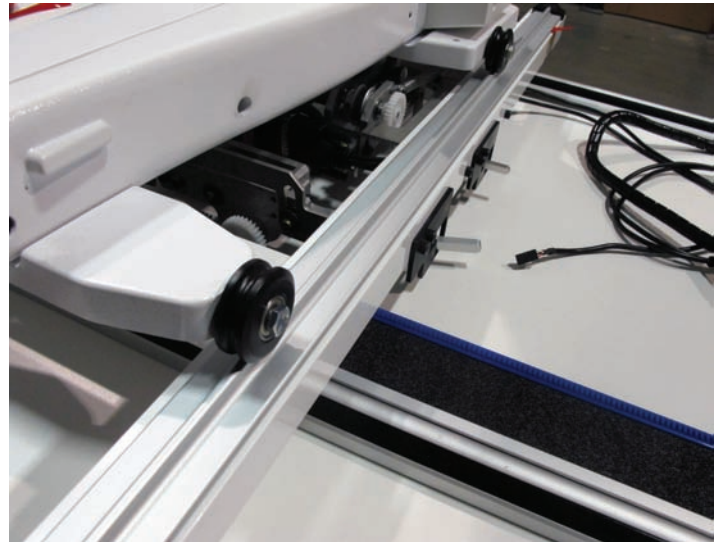
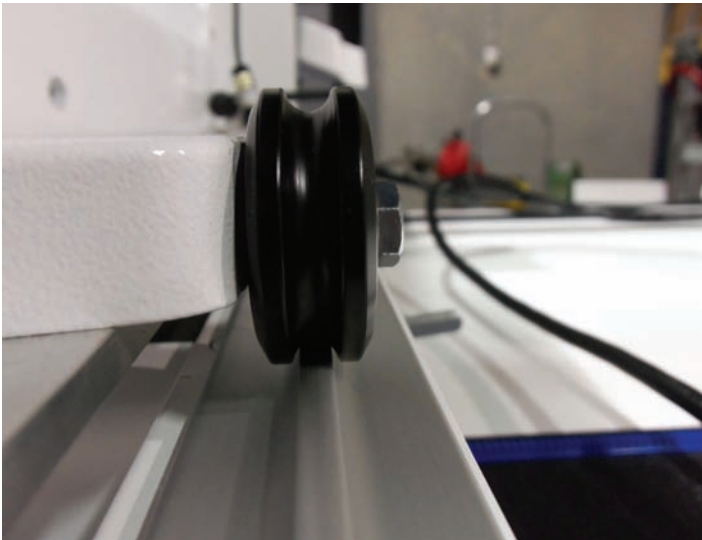
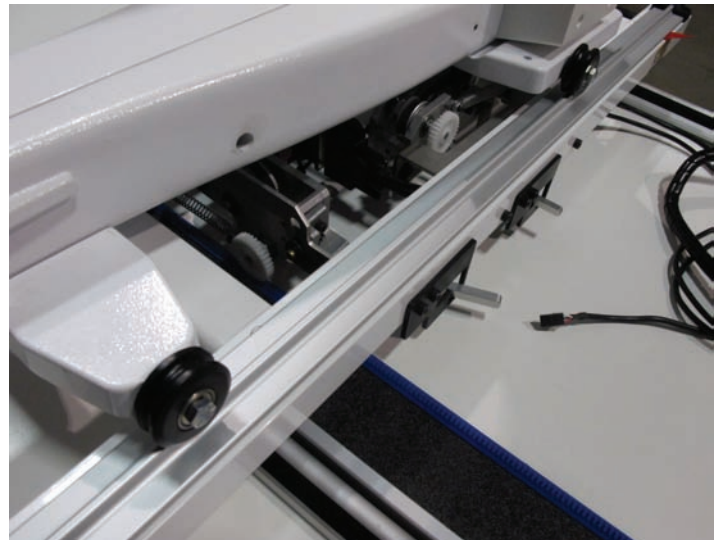

Figure 20
Figure 21, Front Wheels
Figure 22
Step 12: If necessary, slightly adjust the right-side track to properly position the track under the wheel groove (**Figure 20**). (Loosen the end cap screws, carefully lift the end of the track in case it has begun to stick to the carriage rail, and then adjust the track; lightly tighten the end cap screws after the adjustment is completed.) It is helpful to look down the length of the track at the wheels on both sides of the machine and confirm that the radius in the wheels aligns with the radius on the top of the new track (**Figure 21**). Roll the machine from the front to the rear of the carriage to check the position of the track along its length (**Figure 22**).